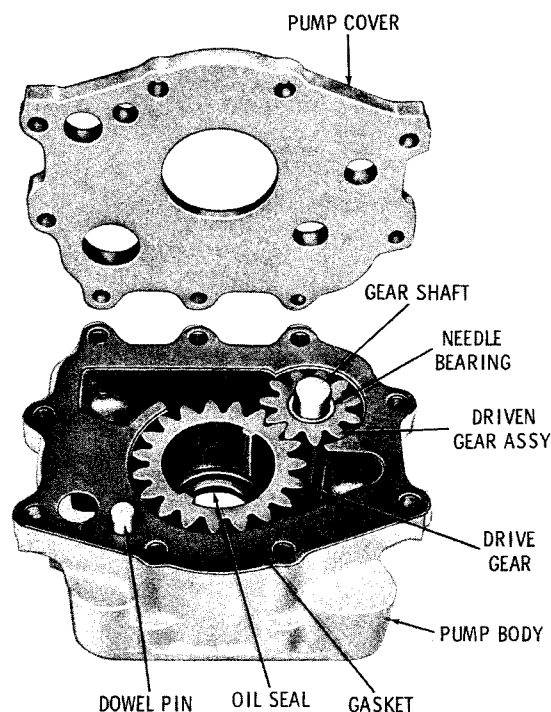

Fig. 6-30. Oil pump assembly
a. Disassembly (fig. 6-30)
(1) Remove the pump cover and the cover gasket.
(2) Remove the drive gear and driven gear assembly.
(3) Inspect the needle bearings. If replacement is necessary, remove them from the driven gear.
(4) Inspect dowel pin which is pressed into the pump body. Remove it only if replacement is necessary.
b. Assembly (fig. 6-30)
(1) If the oil seal was removed, coat the outer circumference of the new seal with nonhardening sealer. Install the seal, spring-loaded lip first, into the rear of the pump body. Press the seal until it seats lightly on the shoulder in the body bore.
(2) If the dowel pin was removed, press a new pin into pump body. The pin is properly installed when it projects 0.41 to 0.43 inch above the front surface of the pump body.
(3) If the needle bearing(s) were removed from the driven gear, install new bearing(s) so that the replacer tool rests against the part number end of bearing race. Press each bearing flush with, to 0.020 inch below, the end surface of the driven gear.
(4) Install the driven gear assembly over the gear shaft and into the pump body. Also install the drive gear into the pump body.